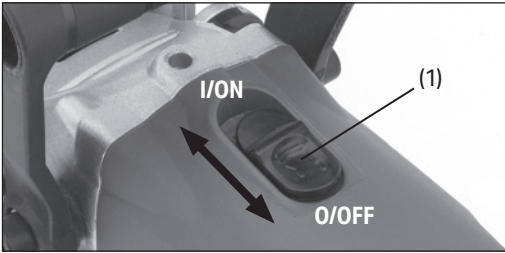

Fig.1
6.1 ON/OFF Locking Switch (Fig.1)